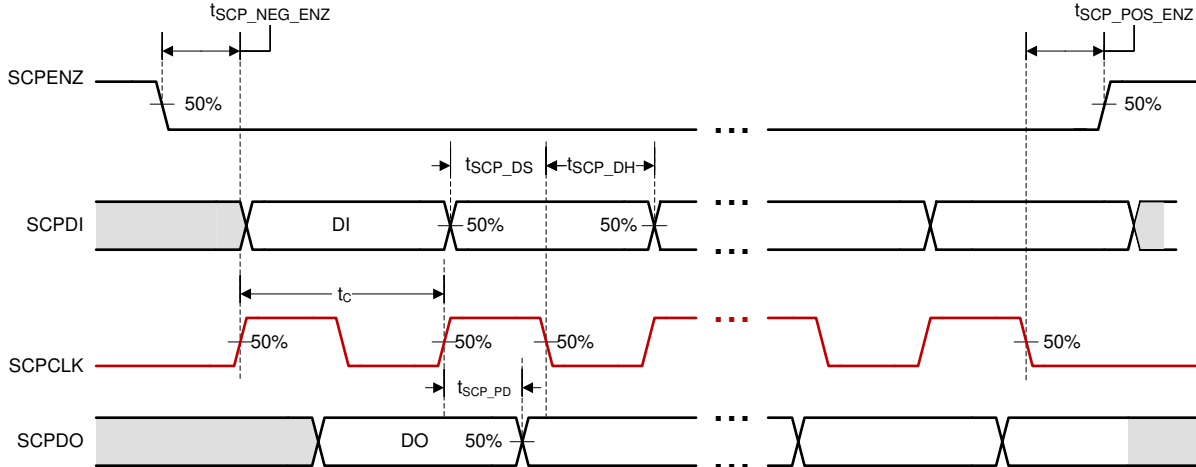

Figure 6-2. SCP Timing Requirements
- (6) Tester Conditions for VIH and VIL.
- (7) PWRDNZ input pin resets the SCP and disables the LVDS receivers. PWRDNZ input pin overrides SCPENZ input pin and tristates the SCPDO output pin.
- (8) The SCP clock is a gated clock. Duty cycle must be $50\% \pm 10\%$. The SCP parameter is related to the frequency of DCLK.
- (9) See Figure 6-2.